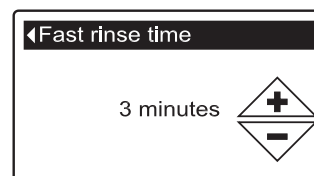

FIG. 66
- 8d. **Fast rinse time:** Press the UP (▲) or DOWN (▼) buttons to change the fast rinse time. Hold the button down to rapidly advance. The fast rinse time can be set from 1 to 30 minutes* (See Figure 66).